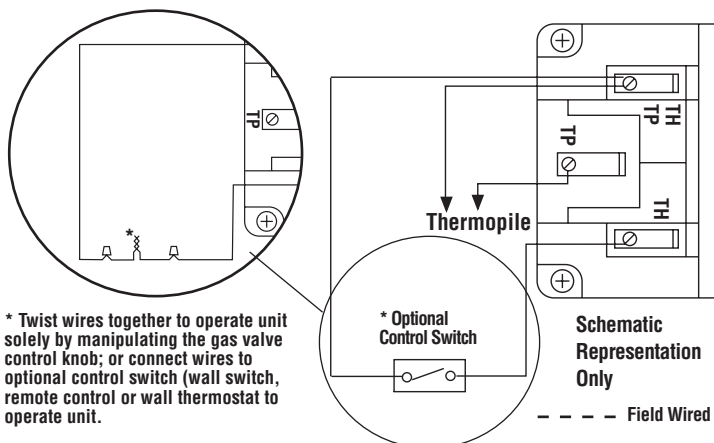

Figure 43 - SIT & HONEYWELL Millivolt Wiring Diagram
A. SIT and Honeywell Millivolt Wiring (See Figure 43) –
4. Alternatively, the appliance may be operated without the use of the controls indicated in **Step 1**, solely by manipulating the gas valve control knob. In order to use this method, twist the free ends of the two conductor wire (which would otherwise go to the standard ON/OFF switch or Optional Switch) together as shown in **Figure 43**.